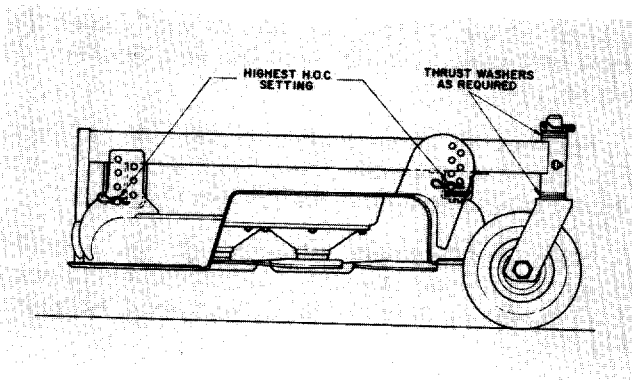

Figure 14
1. Check to make sure front height-of-cut pins are resting properly on frame cushions (Fig. 14).
2. Raise height-of-cut to the 3½" (89 mm) or 4 in. (102 mm) position (Fig. 14); refer to Adjusting Height-Of-Cut, page 6.
A. Cutting units usually operated at 1 to 2 in. (25 to 51 mm) height-of-cut should have the low side of the cutting unit raised. Remove the lynch pin securing castor wheel on low end (Fig. 14) and remove castor assembly.
B. Transfer one thrust washer from top side of castor shaft to lower side, install castor assembly and compare blade height of all blades; refer to items 3 through 7. Continue adding thrust washers if height still does not meet requirements.
C. If cutting unit is operated at 2 to 4 in. (51 to 102 mm) height-of-cut, lower the high side of cutting unit. Remove lynch pin of castor at high end of unit and remove castor assembly (Fig. 14).
D. Transfer one thrust washer from lower side of castor shaft to top side, install assembly and compare blade height of all blades; refer to items 3 through 7. Repeat procedure if height still does not meet requirements.